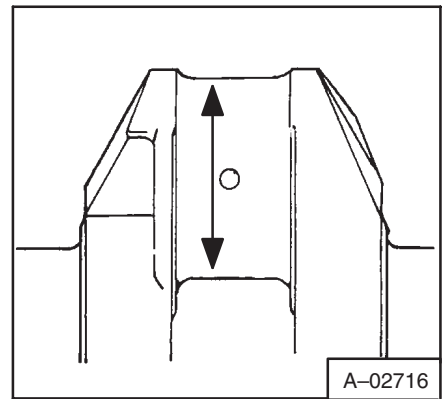

**Fig. 7C-82** Checking Rod Bearings
12. If the crankpins are not to specifications grind them (Fig. 7C-84).